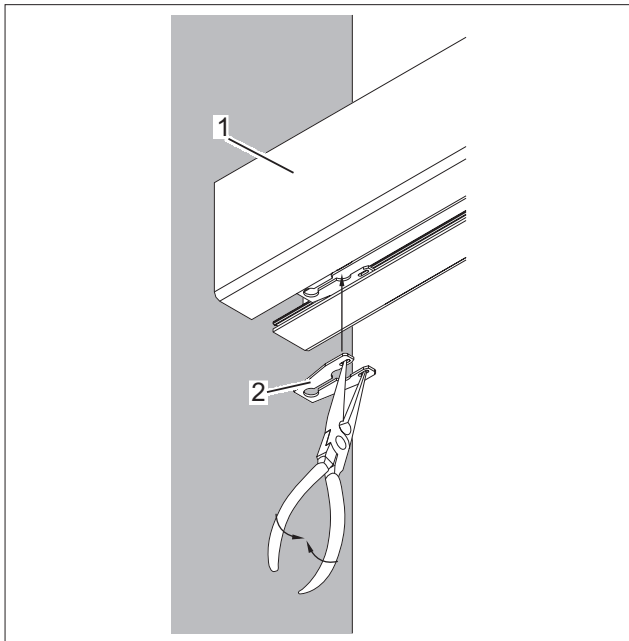

Fig. 17 Inserting the washer
4. Press together the washer (Fig. 17/2) with needle-nosed pliers and insert in the track rail's (Fig. 17/1) guide rails.